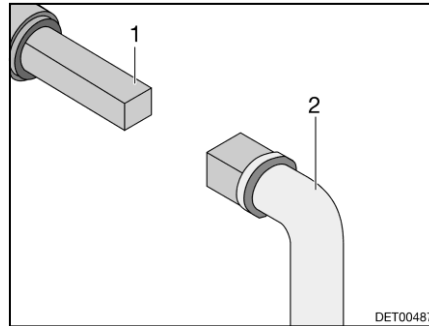

Fig. 122 Operation of the waste water tap
- Place key (Fig. 122,2) onto the square bolt (Fig. 122,1).